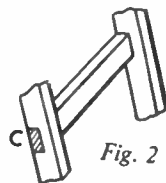
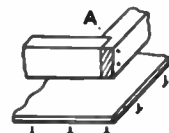

Fig. 2
Fig. 3
The side frames are joined by four cross pieces each  $1\frac{1}{2}$  in. by  $\frac{1}{2}$  in. by 14 in. which fit into the recesses (C), cut to fit them. See Fig. 2. These are then glued and pinned into place. A similar piece of 1 in. by  $1\frac{1}{4}$  in. by 14 in. timber is fixed across the end of the feeding tray as seen in Fig. 3 which also shows how a piece of hardboard is covered with plastic mat-